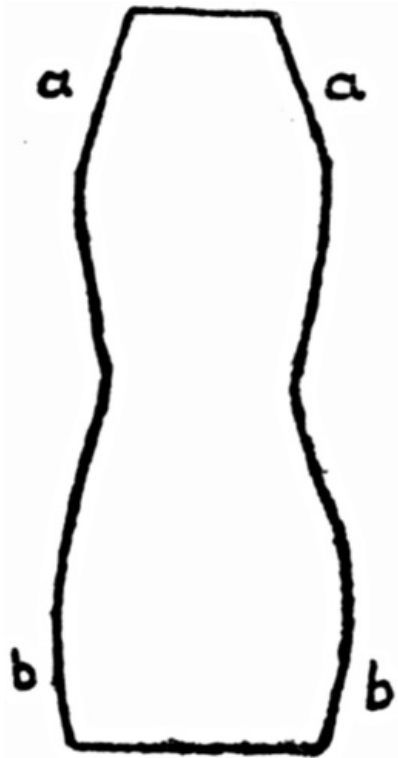
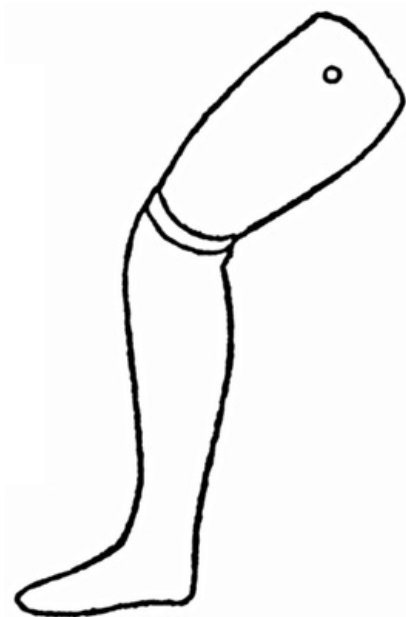

FIG. 161
FIG. 162
**Cork Wrestlers** (Fig. 165). This is a very amusing toy and is very easily made. Cut and file two corks to the shape shown in **Fig. 161**. Drill a hole through the shoulders (*a a*) and hips (*b b*), and flatten these for the limbs to work against. The arms and legs are made of cardboard. Cut out the legs as in **Fig. 162** and make holes in them. Pass a piece of stout wire through the hips and the holes in the legs and double the ends over, so that the legs will not slip off, but let them be loose enough to move freely.